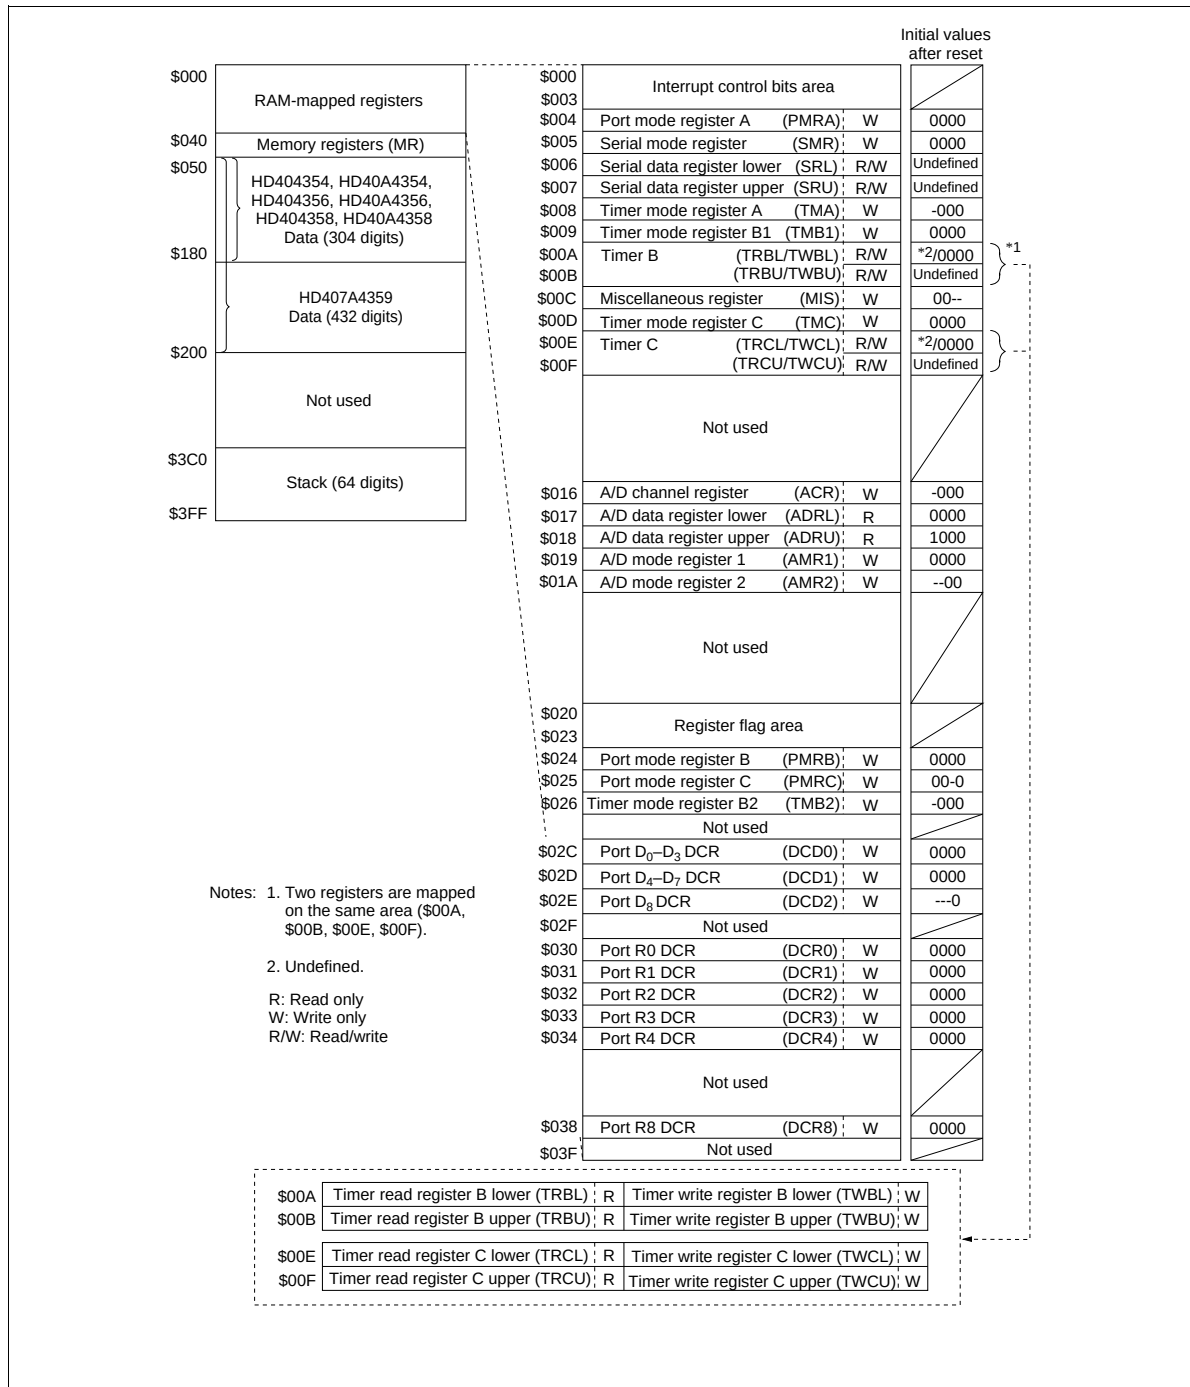

Figure 2 RAM Memory Map
The HD404354, HD40A4354, HD404356, HD40A4356, HD404358 and HD40A4358 MCUs contain 384-digit $\times$ 4-bit RAM areas. The HD407A4359 MCU contains 512-digit $\times$ 4-bit RAM areas. Both of these RAM areas consist of a memory register area, a data area, and a stack area. In addition, an interrupt control bits area, special function register area, and register flag area are mapped onto the same RAM memory space labeled as a RAM-mapped register area. The RAM memory map is shown in figure 2 and described below.
This area is used as mode registers and data registers for external interrupts, serial interface, timer/counters, A/D converter, and as data control registers for I/O ports. The structure is shown in figures 2 and 5. These registers can be classified into three types: write-only (W), read-only (R), and read/write (R/W). RAM bit manipulation instructions cannot be used for these registers.